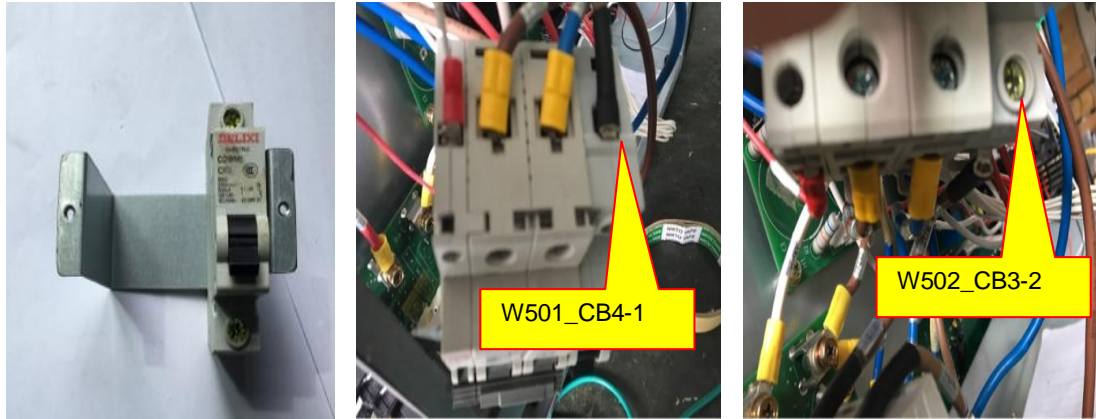

Figure 3 Cable connection
3. Fix circuit breakers to supporting structure sets, connect cable W501_CB4-1 to the top of CB, connect W502_CB3-2 to the bottom of CB, as is shown in figure3.